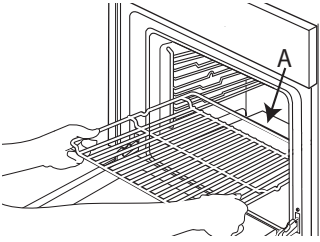

Fig. 1
1. Insert the wire shelf horizontally, with the raised part "A" facing upwards (fig. 1).